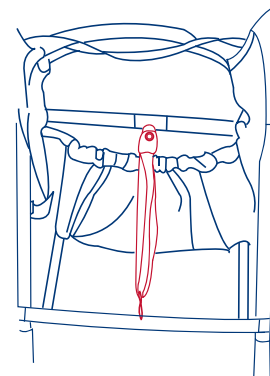
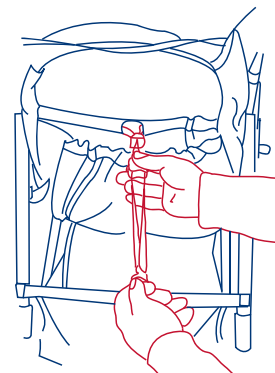

Fig. 8
Fig. 9
- * The seat has a multiple position recline that is controlled by a strap and spring loaded slider behind the seat. See figure 8. To recline the seat, press the round button on the slider and adjust to the required recline position. Please see figure 9. The strap will lock automatically. **The upright position should be used only for a child that is at least 6 months old.**